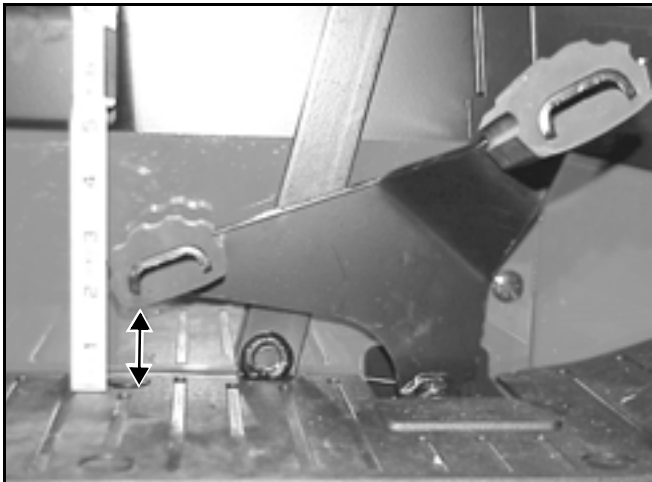

Figure 147
1. Measure the distance between the footrest and the back of the forward/reverse control pedal. There should be $1\frac{1}{4}$ " (31.75mm) to $1\frac{3}{8}$ " (34.925mm) gap (Figure 147).